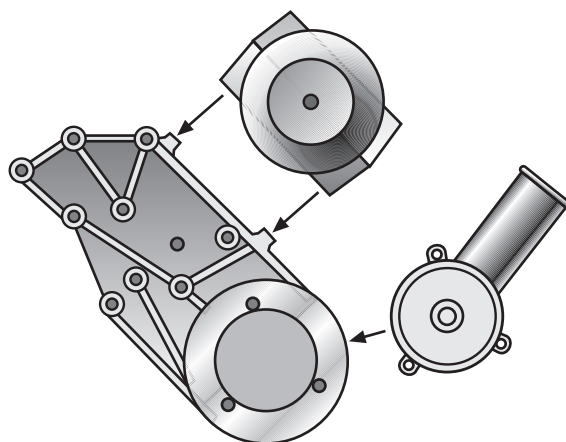

Figure: 5-a
- Reinstall the air conditioner compressor to the new bracket using the original fasteners. (See Figure 5-a.)